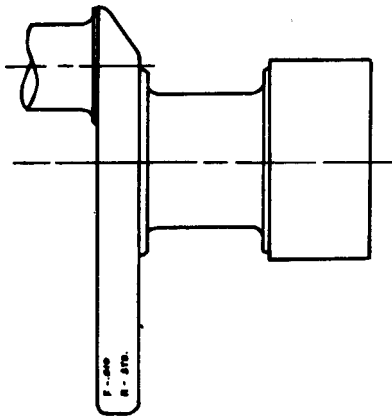

Fig. 1-4. (N101140) Oversize thrust bearing mark on crankshaft
3. The marking for undersize rod and main bearings should be on front counterweight, oversize thrust ring size on rear counterweight. Both thrust ring size and ring location must be included in stamping as shown in Fig. 1-4.